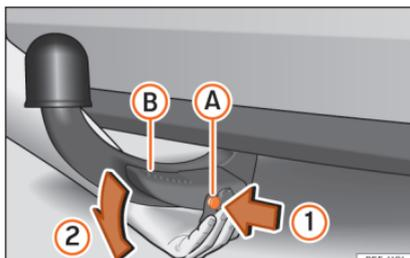

Fig. 258 Removing the tow hook
- Press the release bolt **(A)** in the direction of arrow **(1)**, and at the same time press lever **(B)** as far as it will go in the direction of arrow **(2)** » **Fig. 258**.